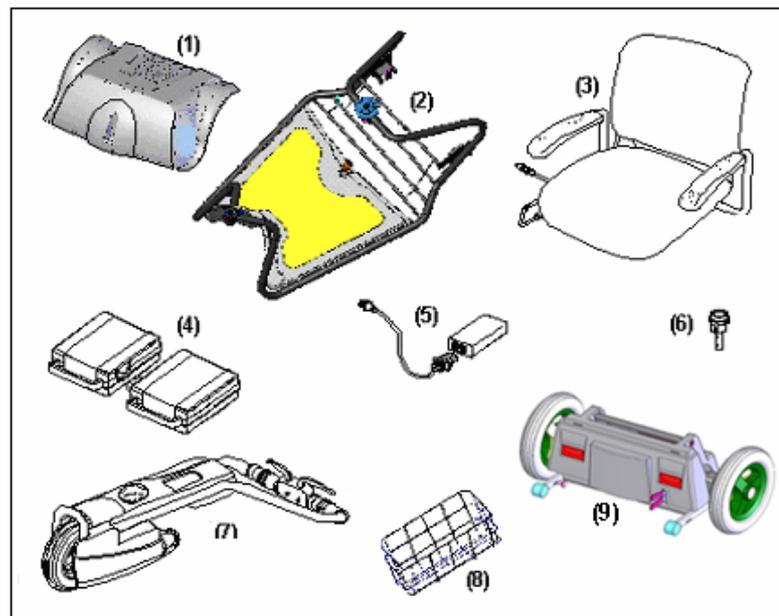

Figure 1
1.1 Unpack as follows (See Fig. 1)
- e. Identifying the **SUPERLIGHT** Components (See Fig. 1)
(1) Batteries Cover	(2) Frame
(3) Seat	(4) Batteries (left & right)
(5) Charger	(6) Seat Adapter
(7) Tiller	(8) Rear Basket
(9) Power Unit